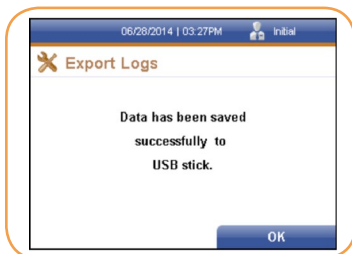

FIGURE 124
3. A window confirming that the data has been successfully saved to a USB stick is displayed (Figure 124).